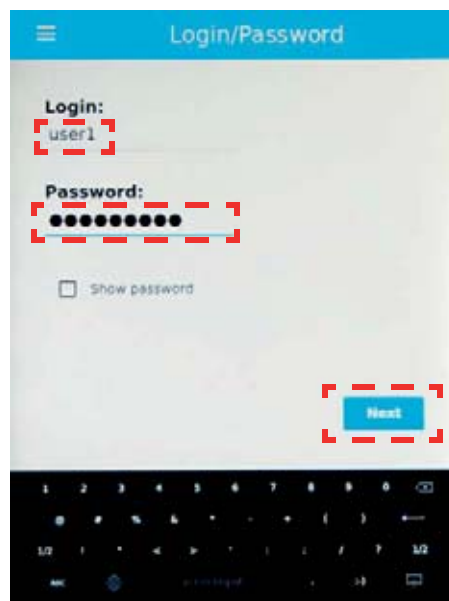

Figure 4-6 BAT - Pre-Initialization, Set Login and Password
Step 8 Set login and password, and press <Next>, see **Figure 4-6**.